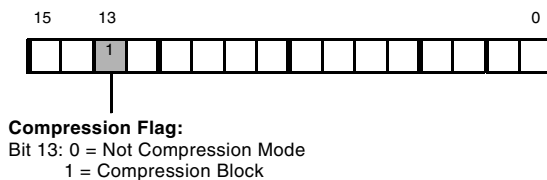

Figure 3-24. Flag Word of Compressed Block Header
The last 16 bits of the compressed header is the flag word. The only valid compression flag assignments are shown in Figure 3-24.
3. (A) The initialization code scans the header for any compressed streams (see the compression flag structure in Figure 3-24). The code decompresses the streams to the decompression window (in parts) and runs the initialization kernel on the decompressed data.